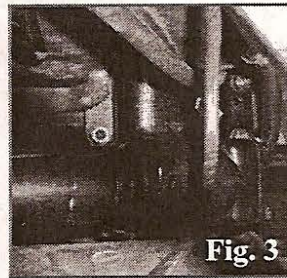
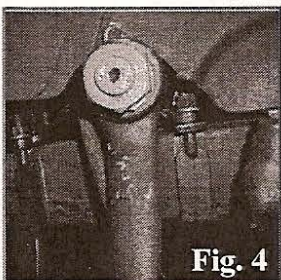
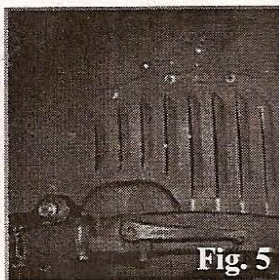
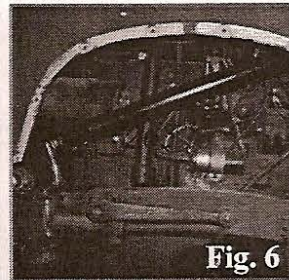

Fig. 3
Fig. 4
Fig. 5
Fig. 6
3. Since the steering gear is mounted to the frame below and under the generator (Fig. 3), all of the mounting nuts and "U" clamps cannot be removed from the top of the engine compartment. Also the engine side shield (Fig. 4) covers the steering gear output shaft, preventing its removal. I removed the screws holding the engine side shield in place (Fig. 5) and removed the shield to expose the steering gear (Fig. 6).